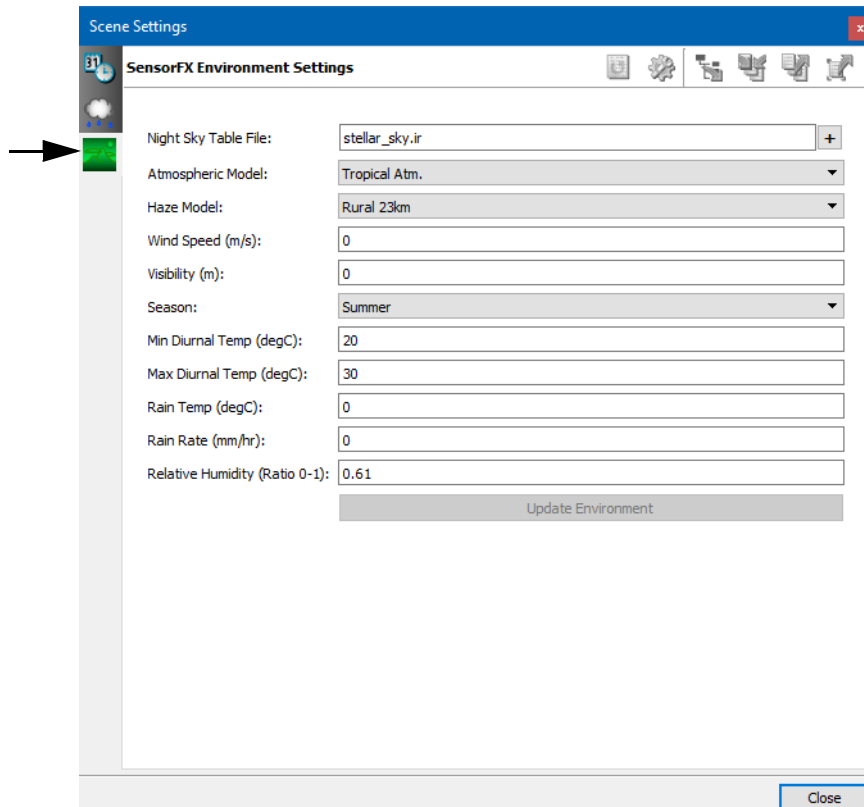

Figure 1-2. SensorFX Environment Settings page
2. Select the SensorFX Environment Settings page (Figure 1-2).